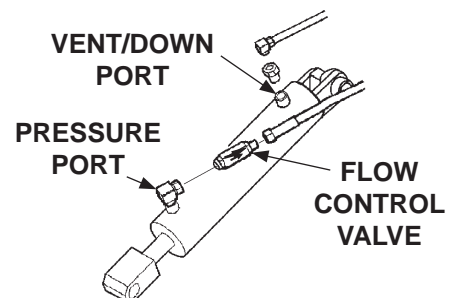

FIG. 50-3
2. Check the hydraulic cylinder. With the platform on the ground, remove the breather plug or vent line from the vent/down port of the cylinder (FIG. 50-3). Raise the platform even with the bed. Allow pump motor to run two seconds more while you watch for hydraulic fluid at the vent/down port. A few drops of hydraulic fluid escaping the vent/down port is normal; however, if it streams from the vent/down port, piston seals are worn. Replace seals.
3. Check and clean flow control valve in high pressure hydraulic line attached to cylinder. When installing flow control valve, make sure arrow on valve is oriented as shown in FIG. 50-3.